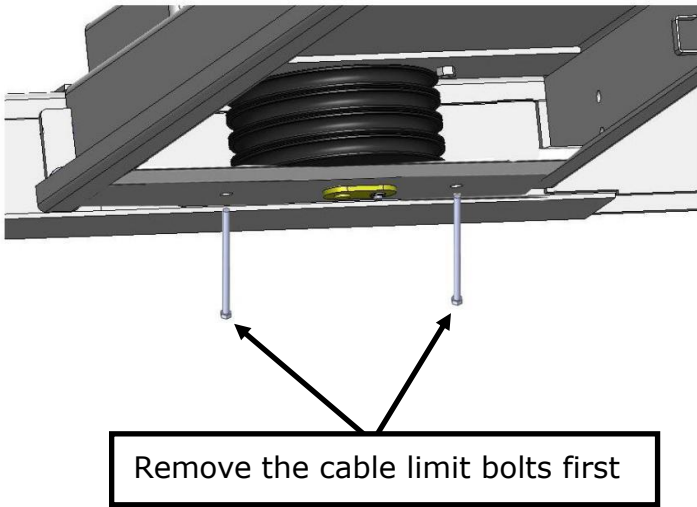
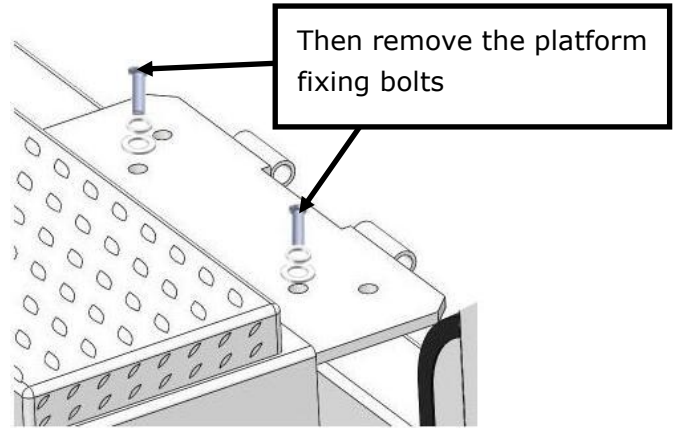

Fig.53
Fig.54
1. Lift the equipment to about 1400mm from ground, lock it to the safety ladder, remove the cable limit bolts and platform fixing bolts (see Fig.53, Fig 54)